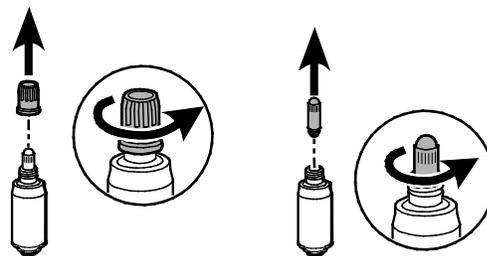

Figure 6
4. Rotate lamp counterclockwise to remove. See Figure 6.